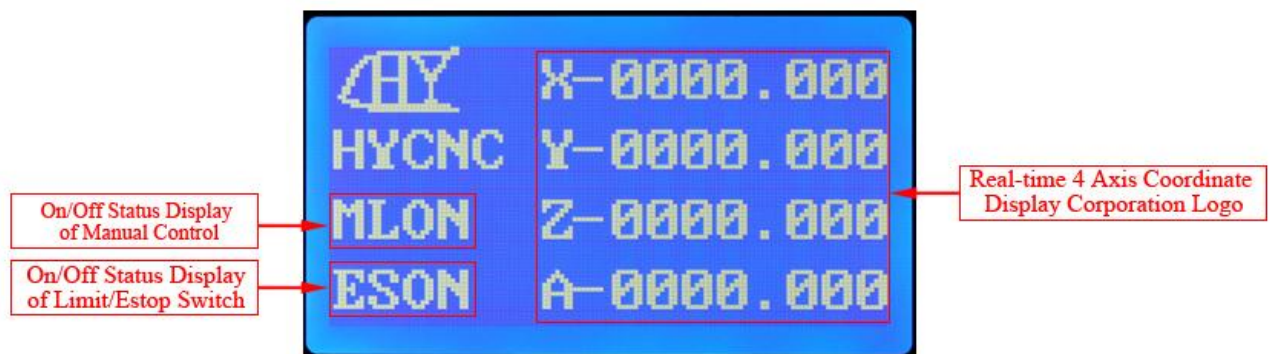

Figure 2: Main Interface Display
- As long as the control pad and display panel have been connected to the driver well, power on the driver, the main interface on display panel will be shown as “Figure 2”.
- As long as the control pad and display panel has been connected to the driver well, power on the driver, the main interface on display panel will be shown as “Figure 2”.